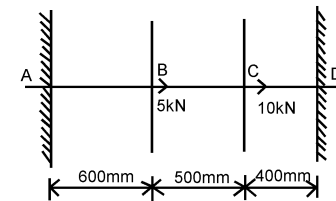

Fig. 4
3. (a) A straight uniform bar AD is clamped at both ends and loaded as shown in Fig. 4. Initially the Bar is stress free. Determine the stresses in all the three parts (AB, BC, CD) of the bar if the cross-sectional area of the bar is 1000mm^2 .